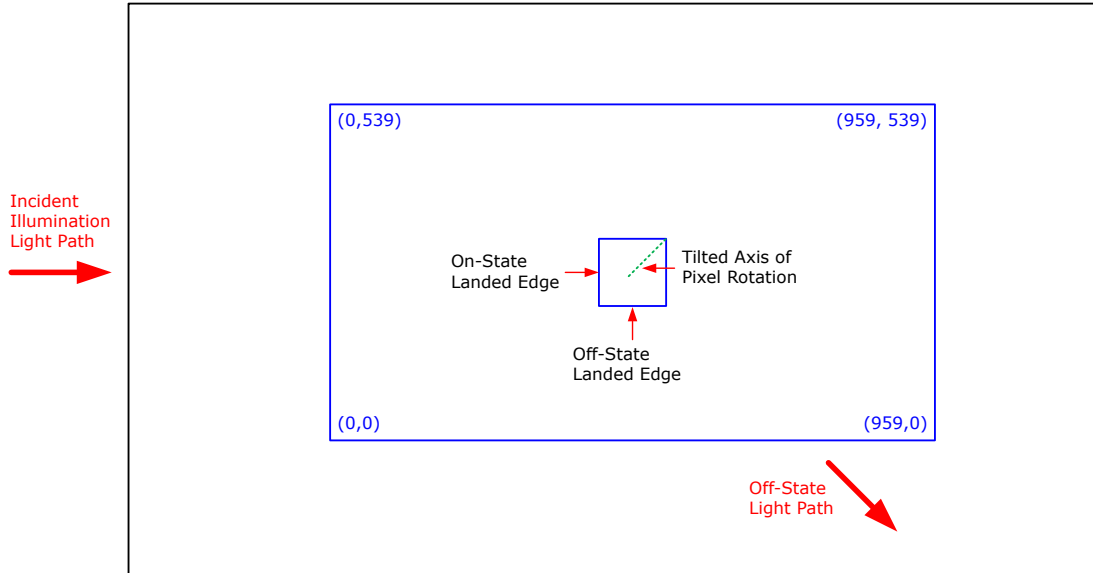

图 5-17. Landed Pixel Orientation and Tilt
- (1) Measured relative to the plane formed by the overall micromirror array.
- (2) Additional variation exists between the micromirror array and the package datums.
- (3) Represents the landed tilt angle variation relative to the nominal landed tilt angle.
- (4) Represents the variation that can occur between any two individual micromirrors, located on the same device or located on different devices.
- (5) For some applications, it is critical to account for the micromirror tilt angle variation in the overall system optical design. With some system optical designs, the micromirror tilt angle variation within a device may result in perceivable non-uniformities in the light field reflected from the micromirror array. With some system optical designs, the micromirror tilt angle variation between devices may result in colorimetry variations, system efficiency variations or system contrast variations.
- (6) When the micromirror array is landed (not parked), the tilt direction of each individual micromirror is dictated by the binary contents of the CMOS memory cell associated with each individual micromirror. A binary value of 1 results in a micromirror landing in the ON state direction. A binary value of 0 results in a micromirror landing in the OFF state direction. See Figure 5-17.
- (7) Micromirror tilt direction is measured as in a typical polar coordinate system: Measuring counter-clockwise from a 0° reference which is aligned with the +X Cartesian axis.
- (8) The time required for a micromirror to nominally transition from one landed state to the opposite landed state.
- (9) The minimum time between successive transitions of a micromirror
- (10) Conditions of Acceptance: All DMD image quality returns will be evaluated using the following projected image test conditions: